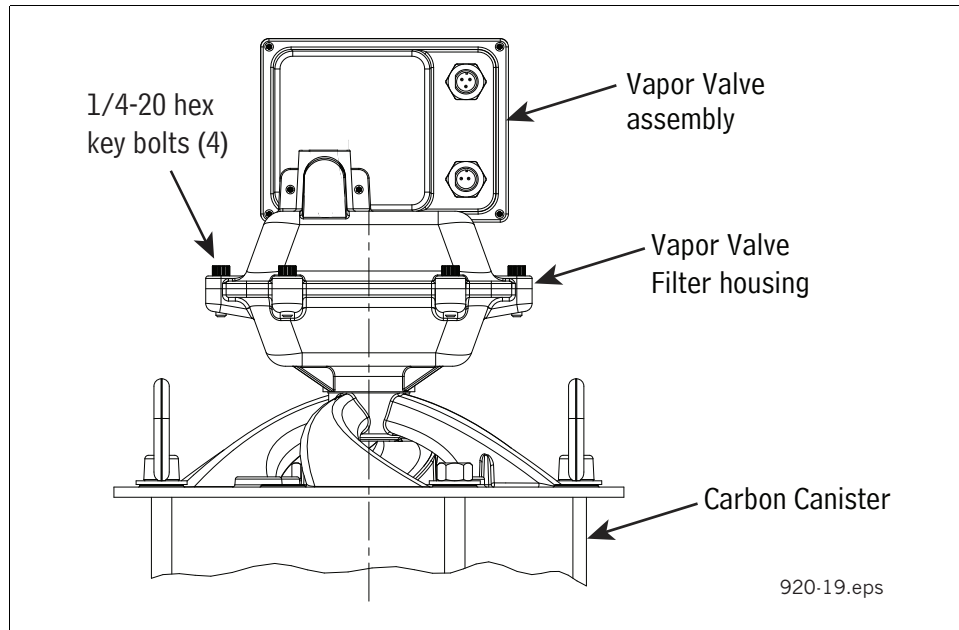

**Figure 16. Accessing the VALVE FILTER and O-Ring**
1. Remove the four 1/4-20 x 1 inch hex key bolts from the top of the vapor valve filter housing (see Figure 16).